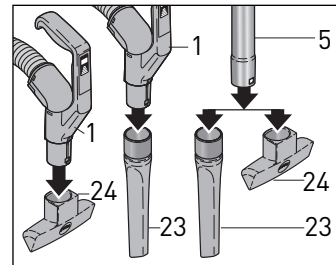
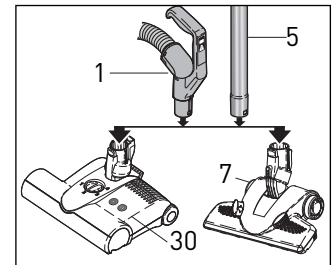

Figure 15
Figure 16
To use the hose without the telescopic tube, switch off the power and unplug the vacuum. Push the handle release button (3) and pull the HANDLE out of the end of the telescopic tube. Do not try to separate the hose from the handle! Insert the crevice nozzle (23), dusting brush (27) or upholstery nozzle (24) onto the end of the handle (figure 15). You may also connect a head to the handle (figure 16). After use, switch off the power, unplug the vacuum and remove the attachment. Re-insert the handle into the telescopic tube making sure it is seated correctly and snap it into place.